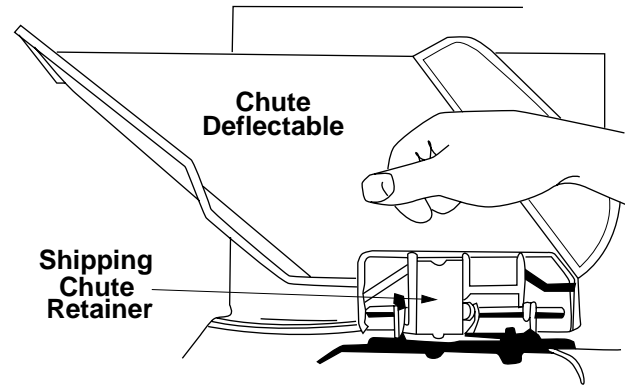

Figure 11
- The chute deflector on your mower is held in an upright position by a retainer for shipping purposes only. This shipping retainer must be removed and discarded before the mower is put into operation. See Figure 11. To remove the shipping chute retainer, move the spring-loaded chute toward the engine by pushing above the retainer. Remove the retainer and carefully lower the chute into operating position, keeping fingers out of the way.